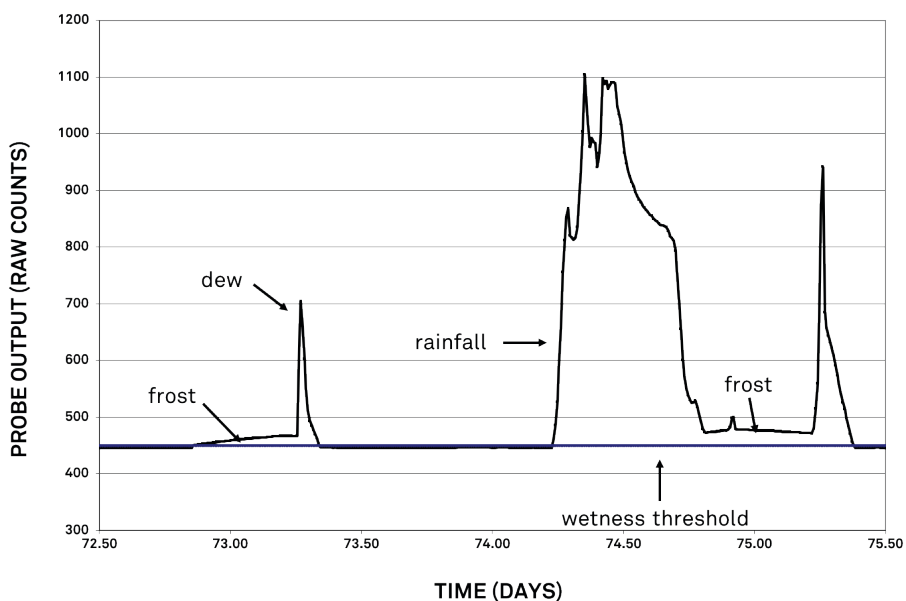

Figure 5 Example raw PHYTOS 31 output
A dry PHYTOS 31 outputs approximately 435 raw counts when read with METER data loggers. When the sensor is totally wet, as in a heavy rain, the signal can range up to around 1,100 counts. Varying amounts of water on the surface of the sensor cause a sensor output proportional to the amount of water on the sensor's surface. Ice has a much lower dielectric constant than that of liquid water, so the sensor output from frost is much lower than that from a similar amount of rain or dew (Figure 5).
- Column 3: The final reading in raw counts of the PHYTOS 31 during the wake interval. For example, if a 30-min wake interval has been chosen, the number in column 3 is the output in raw counts from the PHYTOS 31 during the last minute of that 30-min period. This data column can be used in the event of an extremely dirty PHYTOS 31, which may force the dry output higher than 460 raw counts. In this case, the user can identify a new wetness threshold from the time series data and calculate wetness duration from the new threshold until the sensor can be cleaned (Section 2.3.2). The data in this column only gives a wetness reading every wake interval (typically 30 min or more), instead of the 1-min wetness resolution available in column 1 and 2. This column can also be used for understanding the phase of the water, as shown in Figure 5, as well as the amount of water (as discussed in Predicting the amount of water on the surface of the PHYTOS 31 dielectric leaf wetness sensor).
determined from time series data such as those presented in Figure 5. A wetness threshold should be chosen that is slightly above the dry output, and subsequent readings should be compared to the dry output to determine surface wetness. When using a non-METER data logger, it is important to collect data frequently enough to capture changes in the surface wetness. A sampling frequency of 15 min or less is often necessary to accurately capture leaf wetness duration.